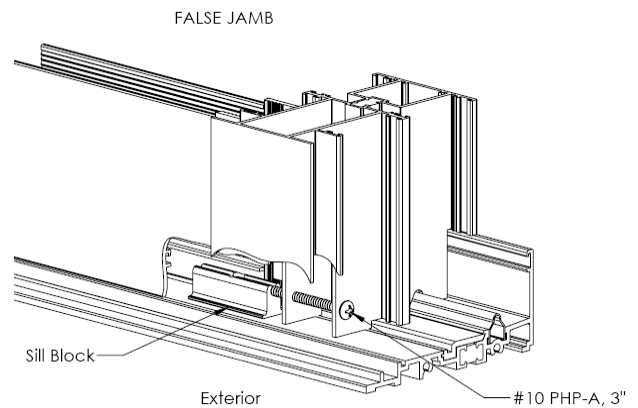
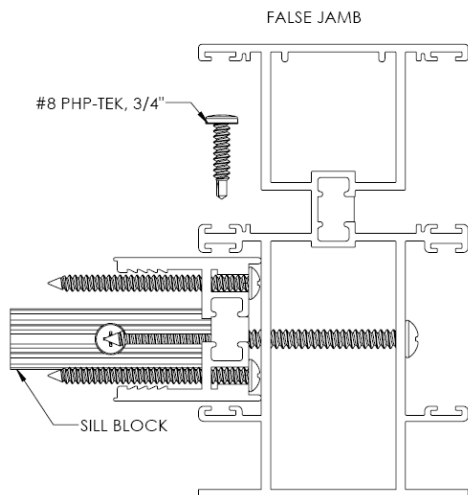

Figure 33:
Figure 34:
- Add the Sill Block using (1) #8 PHP-TEK, 3/4" screw (Figure 33).
- Attach the false jamb to the sill block using a (1) #10 PHP-A, 3" screw.
- Add (4) #8 PHP-TEK, 3/4" screw along the false jamb interior of fixed panel (Figure 34).
- Using (4) #8 x 3/4" long pan head self-tapping screws (Figure 34).